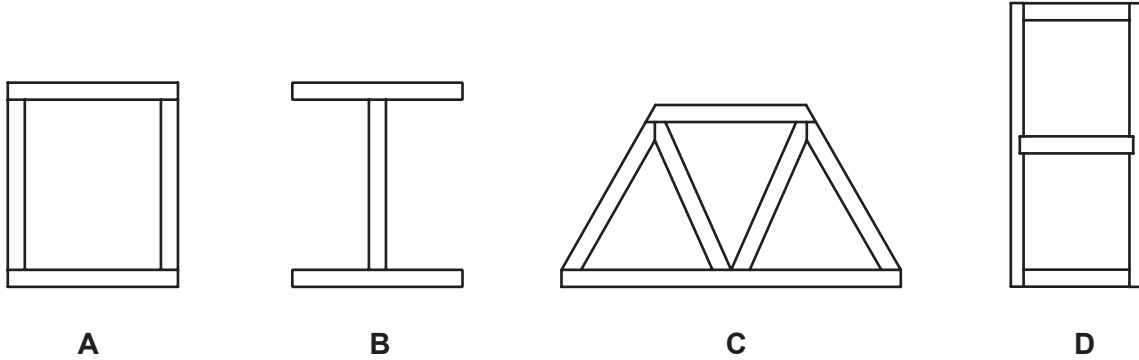

Fig. 1.1
- 1 Fig. 1.1 shows four examples of timber structures used in a building.
- (a) Name the type of structures shown in Fig. 1.1.